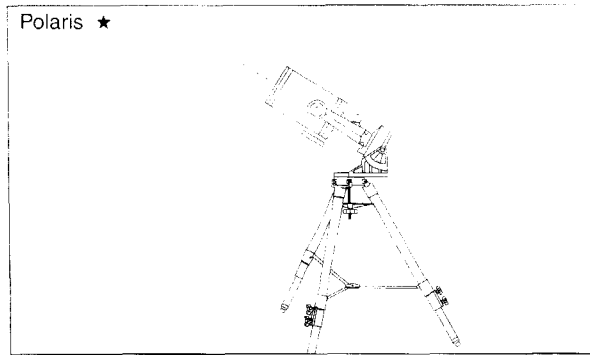

Fig. 21: Mount too high.
- b. If the star drifts North (or up), the telescope's polar axis is pointing too high (Fig. 21).